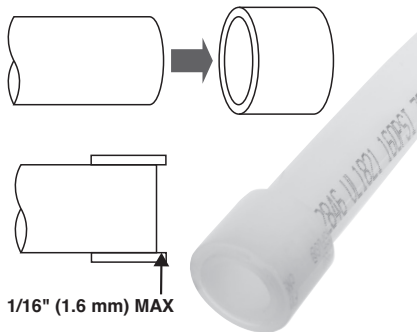

**Figure 5 – Inserting Tubing Into The Reinforcing Ring**
1. Prepare the connection according to the fitting system manufacturer's instructions. The tubing end should be cut cleanly and squarely. Fully insert the tubing into the reinforcing ring until it butts against the ring stop. If the ring does not have a stop, ring should be flush up to 1/16" (1.6 mm) with the tube end, see *Figure 5*. There